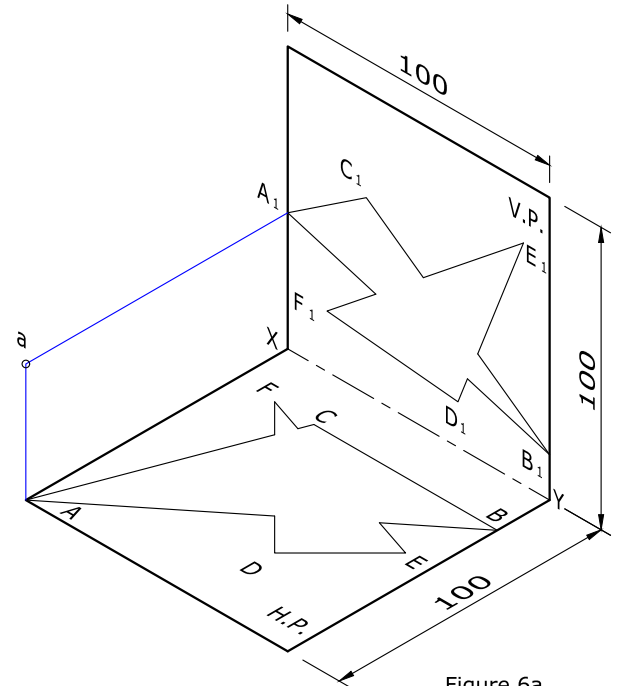
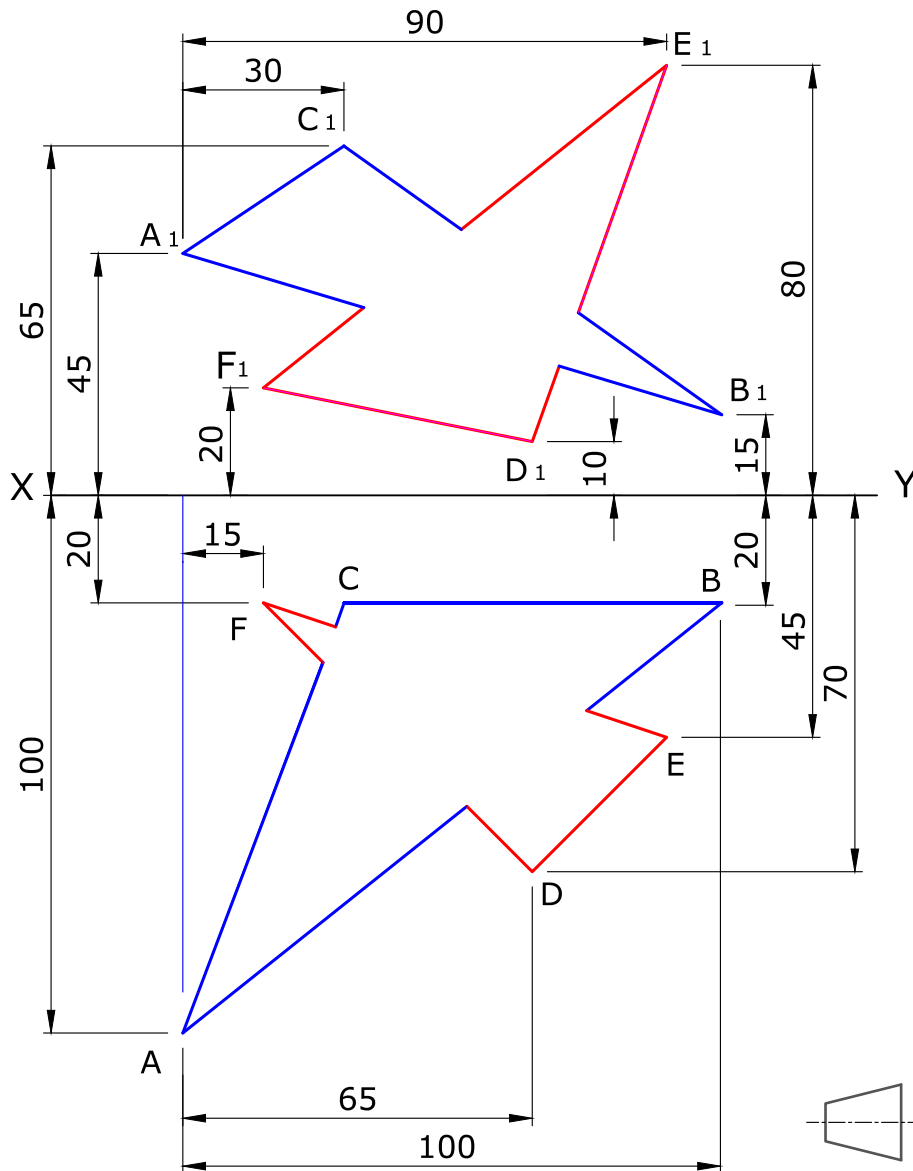

Figure 6a
Figure 6b
Figure 6b shows orthographic views of two intersecting triangles ABC and DEF.
Figure 6a shows an isometric drawing of the projections of the front elevation and the plan on the vertical and horizontal planes respectively.
- Copy Figure 6b. (2)
- Project an auxiliary view to determine the intersections between the two triangles. (6)
- Complete the front elevation and plan by lining in with bold lines the visible parts of the triangles. (2)
- Show hidden detail in both views. (2)
- Copy full size the isometric drawing in Figure 6a. (2)
- Project isometrically the two triangles suspended between the vertical and horizontal planes. (2)
- Lightly shade the two isometric triangles showing clearly the intersecting points derived in subquestions c and d. (4)
Corner 'a' of triangle ABC has been given in Figure 6a.